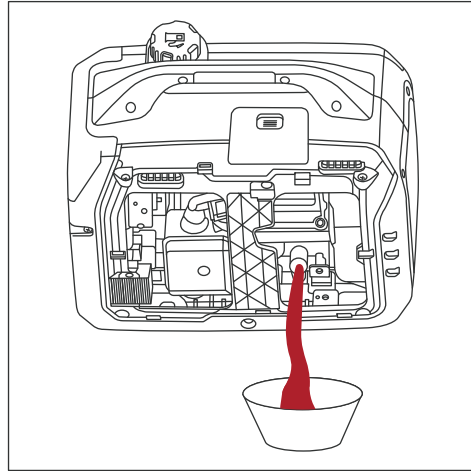

Fig.22
- 5 Remove the oil dipstick and tilt the generator to discharge the oil (see **Fig.22**).